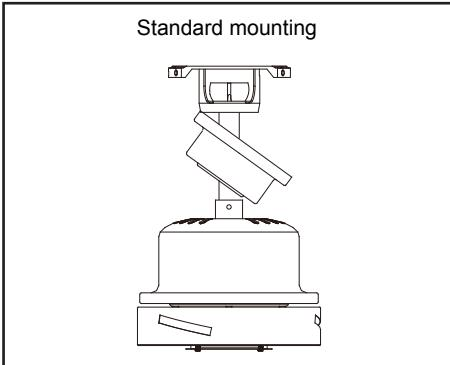

Figure 8
4. Carefully lift the fan assembly up to the ceiling mounting plate. Make sure the tab on the mounting plate is properly seated in the groove in the hanger ball. (Figure 8)